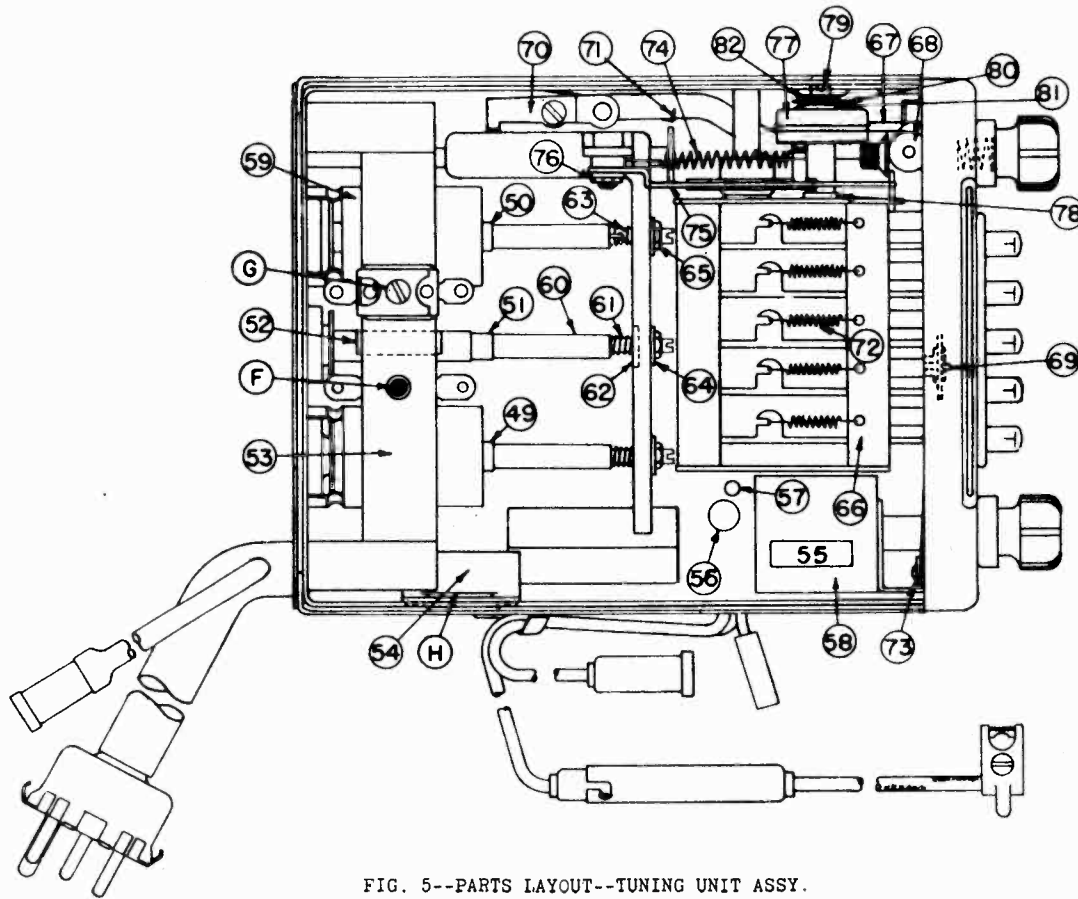

FIG. 5--PARTS LAYOUT--TUNING UNIT ASSY.
- (c) Tune the set to signal and using wrench, part #7238078, adjust the position of the iron core in the R. F. coil (Illus. #2, Fig. 5) for maximum output meter indication.
- (d) Adjust the position of the iron core in the antenna coil (Illus. #1, Fig. 5) for maximum output. DO NOT TOUCH THE ADJUSTMENT OF THE OSCILLATOR COIL IRON CORE.
- (b) Unsolder blue lead and black lead from either end of trimmer "G" (Fig. 5).
- (c) Unsolder green lead from high side of trimmer "F" (Fig. 5).
- 2. The position of the R.F. coil shunt condenser (Illus. 39, Fig. 5) should not be changed. Changing its position causes this stage of the radio to be detuned.
- (c) Set frequency of the signal generator to exactly 1560 kilocycles and adjust the oscillator shunt trimmer condenser "F" (Fig. 5) for a maximum output.
- (d) Adjust the R.F. trimmer condenser "G" (Fig. 5) for maximum output.
- (e) Adjust the antenna trimmer condenser "H" (Fig. 5) for maximum output.